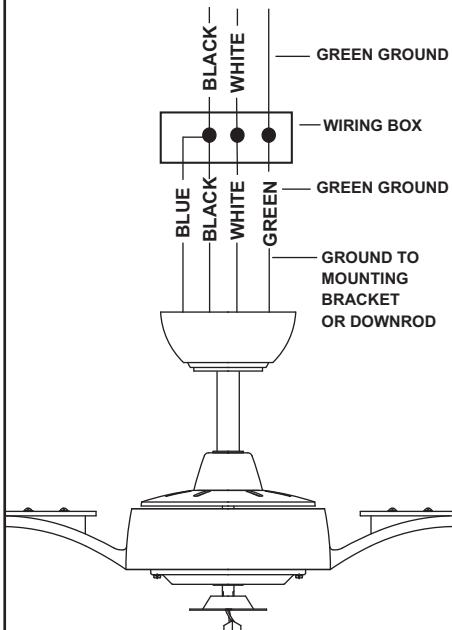

Figure 10
Step 1. Connect the ground conductor of the 120V supply (this may be a bare wire or a wire with green colored insulation) to the green ground lead(s) of the fan. (Fig. 10)